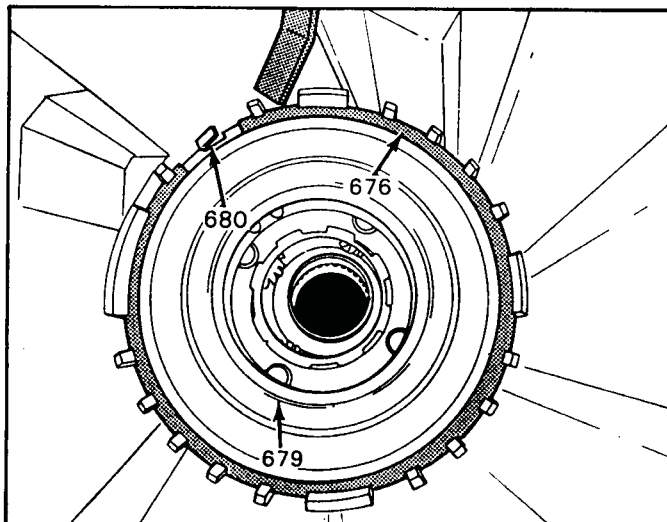

Figure 92
4. Install the Low/Reverse support assembly into the case lugs by aligning the wide notch in the support with the wide case lug (See Figure 92).
6. Install the Low/Reverse support snap ring into the case snap ring groove. The gap on the snap ring should be placed as shown in Figure 92.